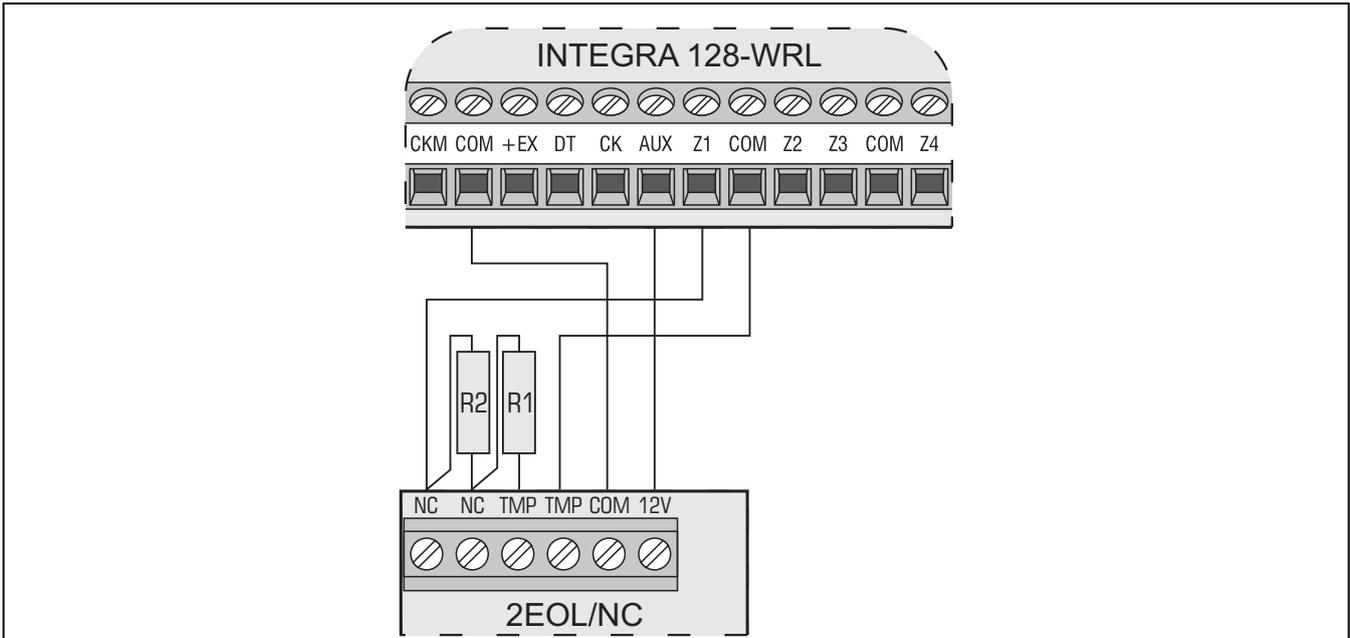

Fig. 17. Exemplary connection of NC type detector in 2EOL configuration to control panel (NO type detector should be connected in the same way).
- on the control panel mainboard – the value of R1 and R2 resistors is programmed individually for the 2EOL configuration (see Fig. 17). The resistor value for EOL configuration is a sum of values programmed as R1 and R2.
- **version 4.00** – the value of R1 and R2 resistors for 2EOL configuration (see Fig. 17). The resistor value for EOL configuration is a sum of values programmed as R1 and R2.